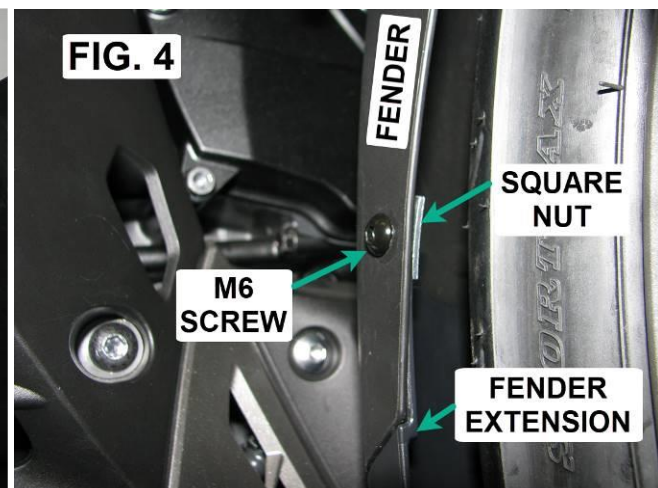

FIG. 4
11. APPLY REMOVABLE TREAD LOCK TO A SUPPLIED M6 SCREW AND INSERT IN THE LEFT SIDE TO SECURE THE FENDER EXTENSION. (FIG. 4 SHOWS RIGHT SIDE).